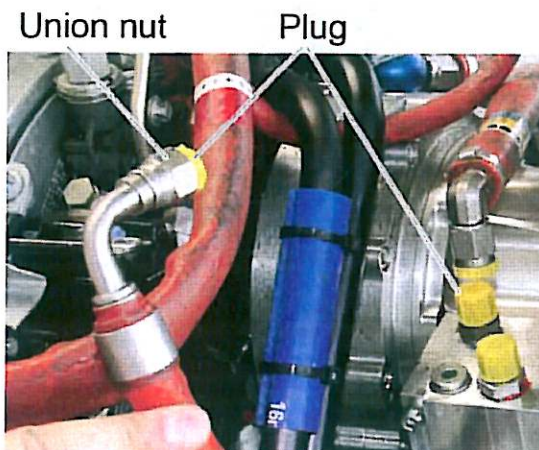

Figure 6
6. *Detach the union nut of the hose line from the Constant Speed Unit (CSU). Seal the hose line and the Constant Speed Unit (CSU) with appropriate plugs to protect them from contamination or dirt. See Figure 6.*